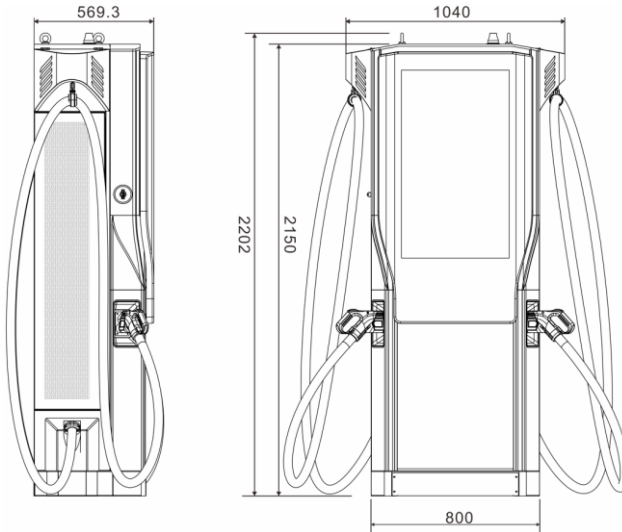

Fig. 4-1 The shape & dimensions of SDC
- The shape & dimensions of SDC DC Fast charging station shown as Fig. 4-1.